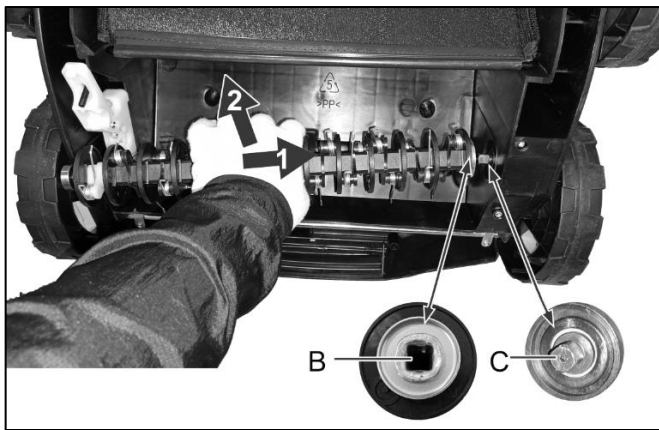

Fig.15
- c) Replace the roller, slide the roller onto the drive shaft, make sure the sleeve (B) was fit onto the drive shaft (C). (Fig.15)
- d) Push the roller inside and install the bearing at the other end on the bearing holder (Fig.15).